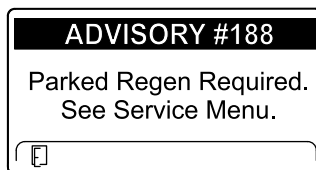

Figure 53
- Parked regeneration required ADVISORY #188 (Figure 53)